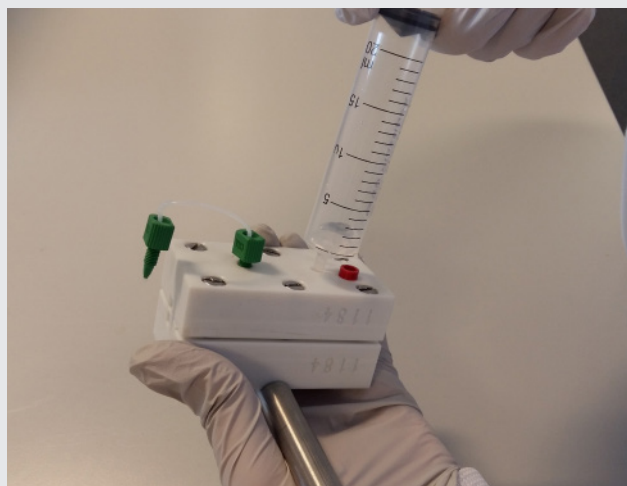

Fig 8.: Storage of KOBRA® CELL
- The KOBRA® CELL should be switched off and disconnected for washing and storage (Fig. 8).